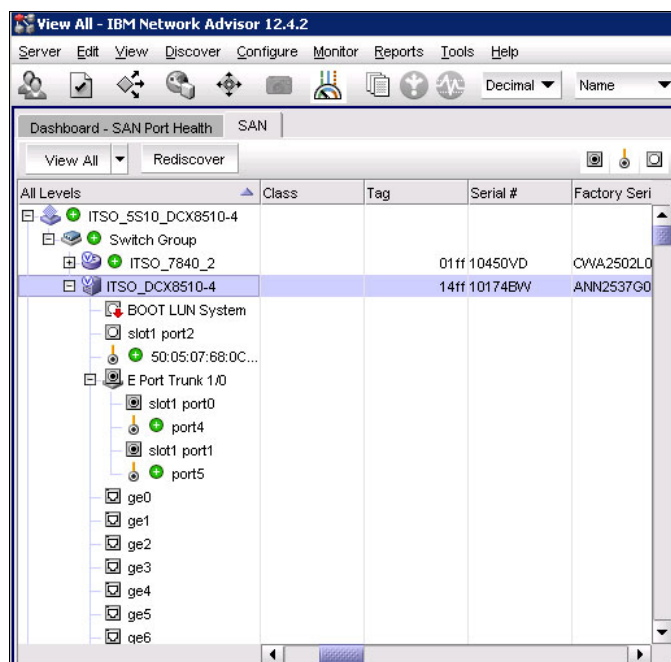

Figure 10-9 Product list pane
4. Ports that are part of a trunk group will display as a trunk port, as shown in Figure 10-9.